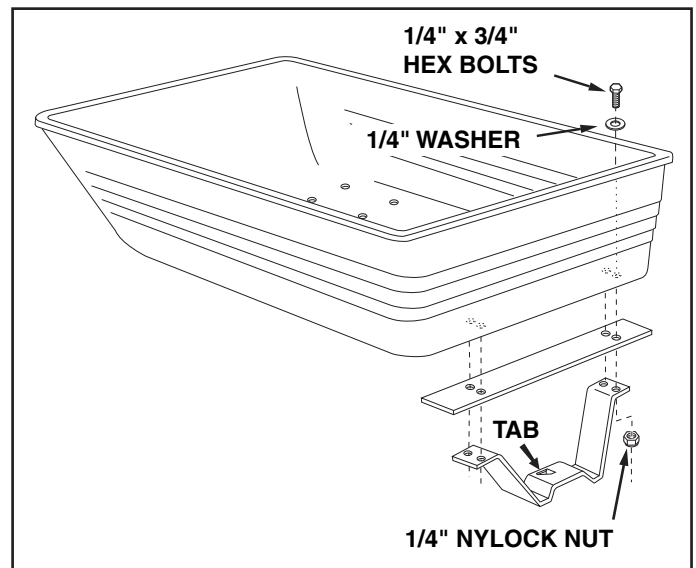

FIGURE 4
- Assemble the latch stand plate and latch stand bracket (with alignment tab toward rear of cart) to the cart tray using four 1/4" x 3/4" hex bolts, 1/4" washers and 1/4" nylock nuts. **Tighten** nuts after all bolts are in place. See figure 4.